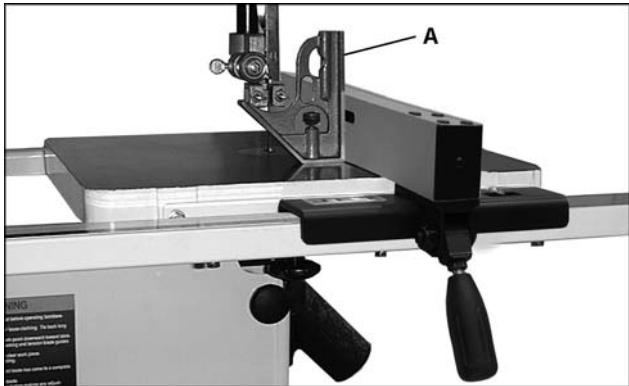

Fig. 6
- The front rail, rear rail and sliding pad can be raised or lowered to allow for an equal gap. At the same time make sure the fence is perpendicular to the table top (A, Fig. 6).